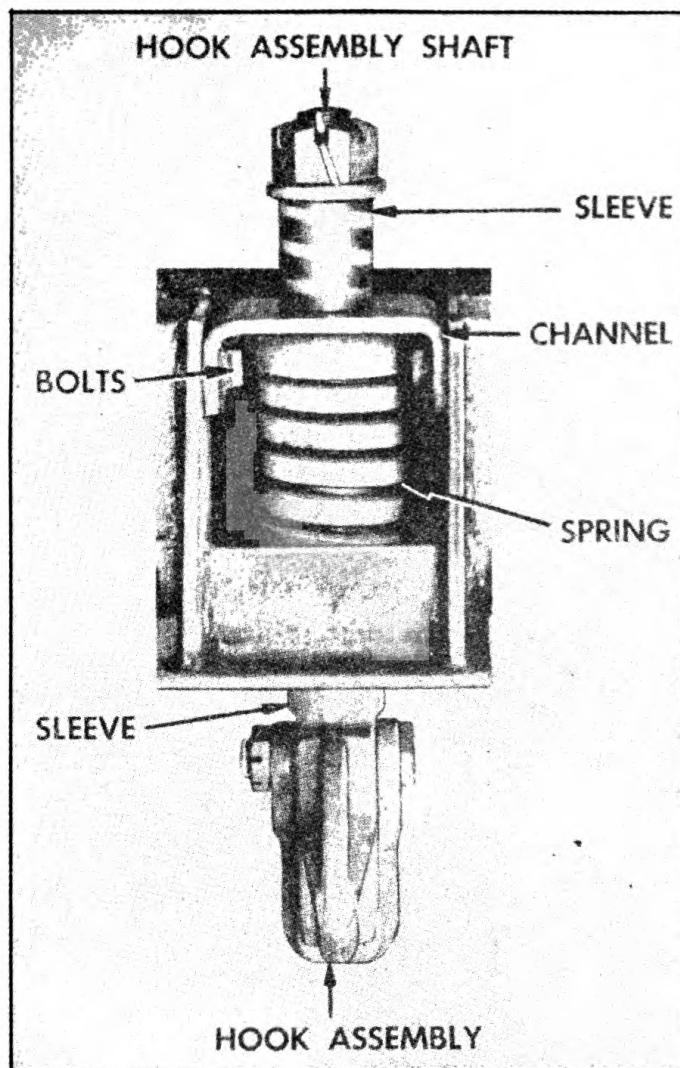

FIGURE 56. PINTLE HOOK
1. **REMOVAL** (Figure 56).—*a.* The pintle hook is bolted to a mounting plate at rear of trailer. By removing the nut and washer from hook shaft, the hook assembly can be pulled out of sleeves and spring which are held within the box section.
**4. PINTLE HOOK SPRING AND SLEEVE, REMOVAL (Figure 56).—**a. Remove four bolts holding channel to box section.